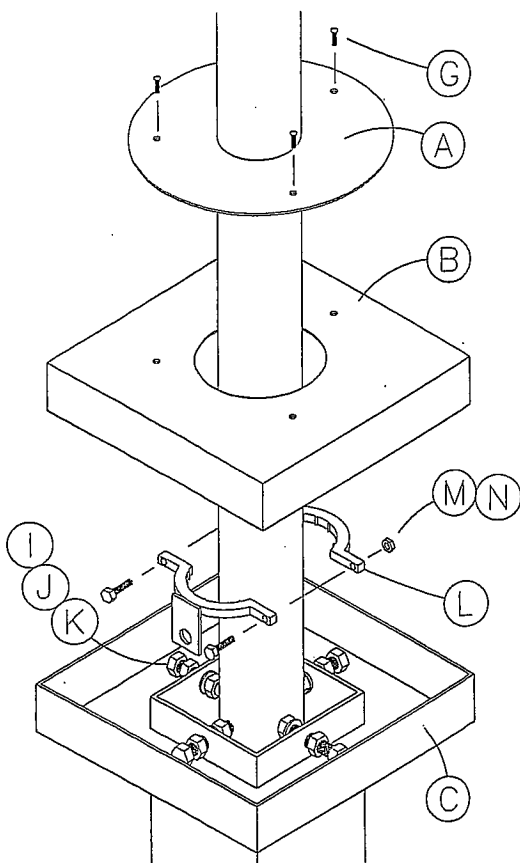

Figure 4
10. Tightly secure the gooseneck so that it is level and that the top section is parallel with the playing surface. (See Figure 4) Using the 3/8" *grade 8 bolt* (M), and the 3/8" *hex nut* (N) loosely secure the *anti rotation collar* (L).
11. Slide the *Anti-rotation collar* (L), the *Pan cover* (B) and the *pole plate* (A) onto the gooseneck pole. (See Figure 4)
12. When you are confident that the gooseneck is positioned properly, loosen the front and rear 3/4" hex bolt (I). This will allow the holes in the anti-rotation collar to line up with the end of the hex bolts. Retighten the 3/4" hex bolt and jam nuts. Using the 3/8" *grade 8 bolts* (M), and 3/8" *hex lock nut* (N) tighten the *anti rotation collar* (L) to the gooseneck pole.
14. Using the 1/4" x 1/2" *self tapping screw* (G), secure the *pole plate* (A) to the *cover pan* (B) with the holes provided. If your socket is not perpendicular with the ground you may need to drill your own holes in the cover pan. Once the pole plate is fastened to the cover pan place the cover pan into the socket.
15. When you remove the gooseneck pole from the ground socket, you may want to install the *hole cover plate* (D). With the holes provided and using the 1/4" x 1/2" *self tapping screws* (G), secure the *hole cover plate* (D) to the *cover pan* (B).